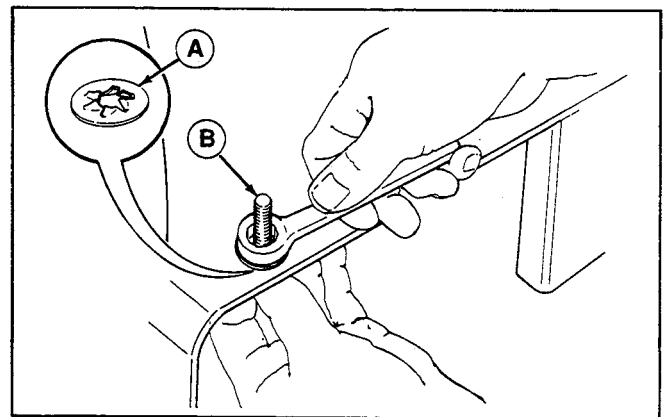

Figure 6
9. Re-install the deflector carriage bolts using the supplied push nuts (A, figure 6).